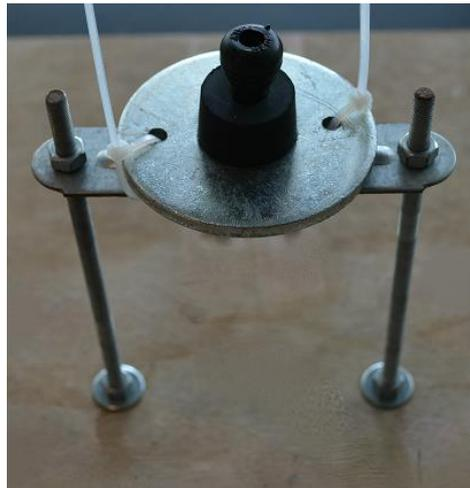

Figure 17
7. Place the metal ring as shown in Fig. 17. Use zip ties to join securely the metal ring to the mending plate.